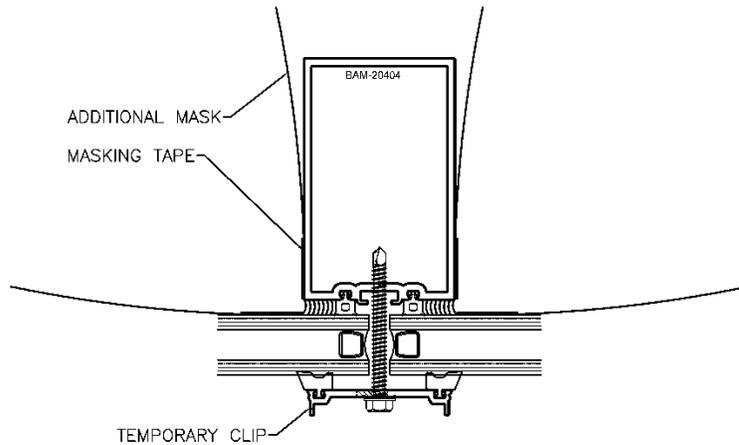

FIGURE D.2
5. Tape off mullions and glass. (SSG sealant is soft and stringy. Please do not try to free hand sealant, and keep some alcohol or approved cleaner to clean the extrusion. Some sealants may stain finish.) (FIGURE D.2)